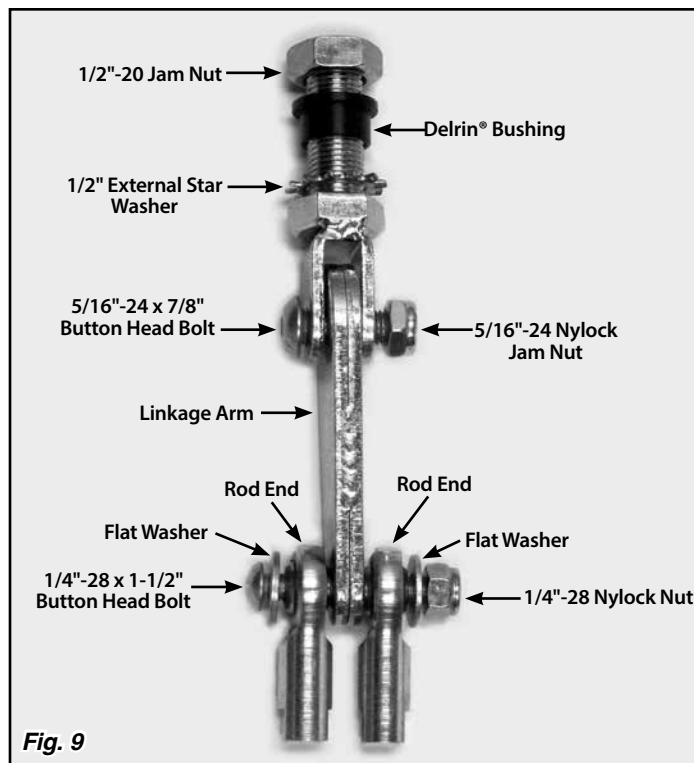

Fig. 9
Step 13: Verify that the linkage arm assembly is assembled correctly, with flat washers on the outside of each rod end and the heads of both button head bolts on the same side of the linkage arm as shown in **Fig. 9**. Remove the 1/2"-20 nut and Delrin® bushing from the linkage arm assembly. Make sure the star washer is in place on the linkage arm assembly, and insert the linkage arm assembly into the transmission boss from the bottom side.